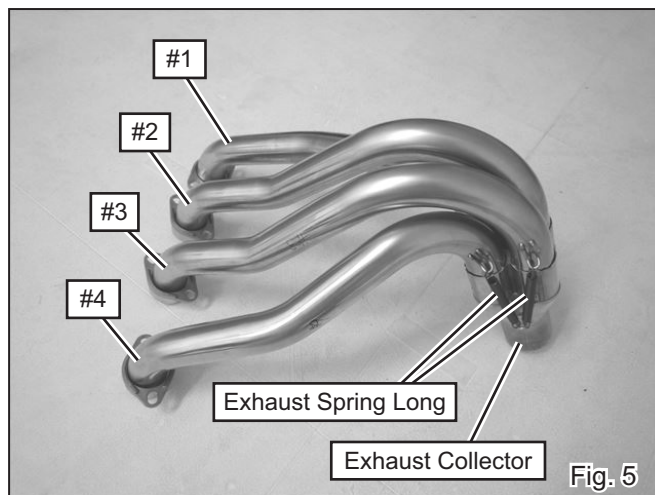

Fig. 5
- 12) Check sticker numbers on Exhaust Collector and install 4 of Exhaust Pipe in the right place from #4 >> #3 >> #1 >> #2 in order. Then, fit chips on Exhaust Pipe #1 and #3 to recesses on Exhaust Collector, adjust the position of Exhaust Pipe #1 and #4 to engine wide and install 4 of Exhaust Spring Long. (See Fig. 5)